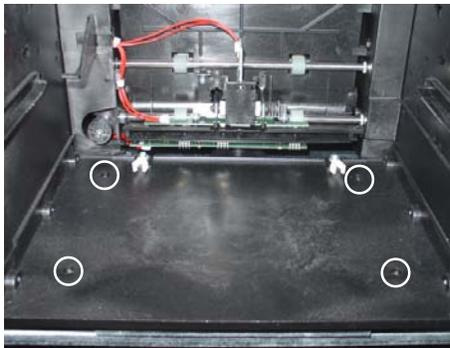
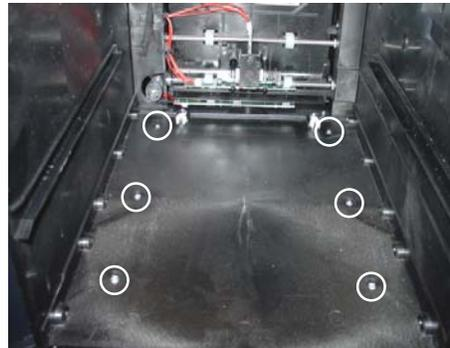
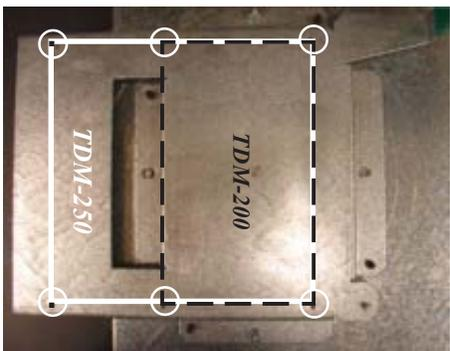

Figure 9. Dispenser hole location (TDM-200).
Figure 10. Dispenser hole location (TDM-250).
Figure 11. Turntable hole locations.
2. Remove the note and reject cassettes from the dispenser. Mount the dispenser on the turntable. Align the screw holes on the dispenser bottom frame (Figure 9 or Figure 10) with the threaded holes on the turntable (Figure 11). Install the pan-head phillips screws w/tooth washers and secure the dispenser to the turntable. Figure 12 shows the dispenser installed.
The TDM-250 requires six (6) screws. Refer to Figure 11 for the applicable dispenser placement and hole locations for each.